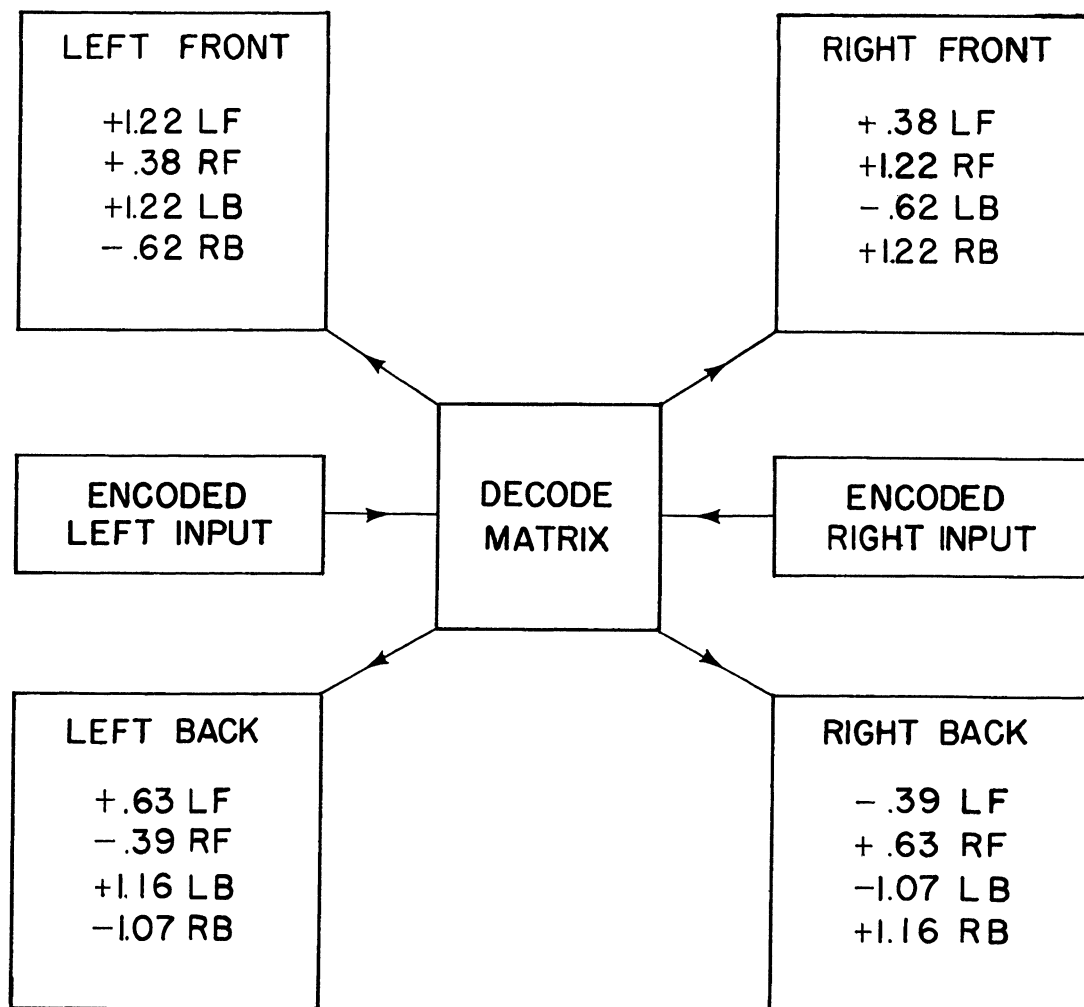

FIGURE 7
If encoded material is applied to a conventional stereo system (no decoding) it will be reproduced, but without the enhancement due to the ambient sound or any of the front to rear depth of sound. There will only be the conventional left-right composition of the sound. Figure 7 illustrates the decoding action. The L' and R' signals will be applied to the decoding matrix so there will be specific ratios of L' and R' at the output of the matrix. While four decoded outputs can be derived, Zenith engineers have determined that decoding the Left-Front (LF) and Right-Front (RF) provides no significant
Equations 5 and 6 are represented in figure 7 as the derived LB and RB outputs. The LF and RF outputs are those of the inputs L' and R', the encoded signals as in equations 1 and 2 respectively.